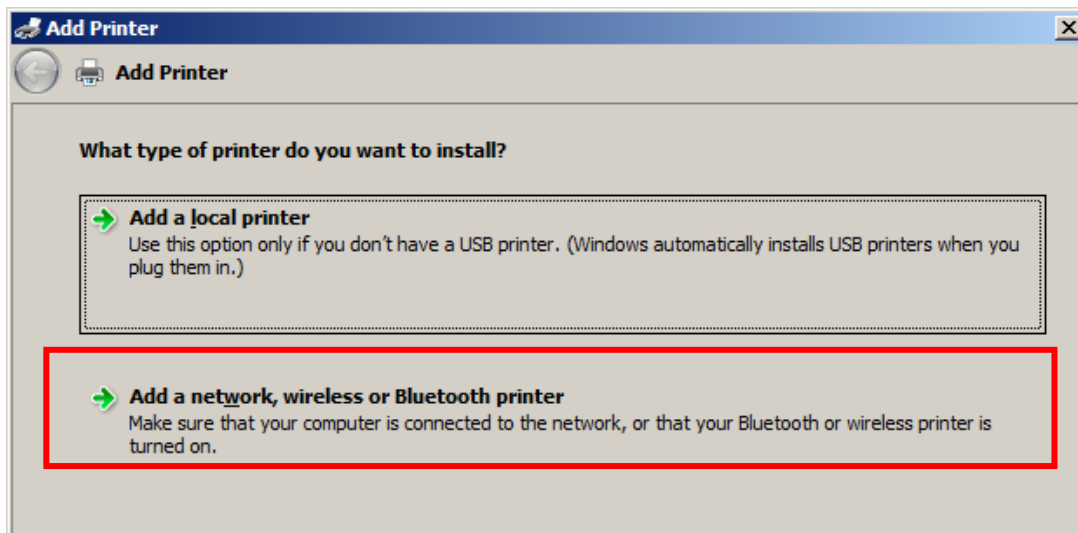

Figure 10.26 – Select “Add a network, wireless or Bluetooth printer”.
- 5) When the add a printer dialogue box pop up select “**Add a network, wireless or Bluetooth printer**”. (figure 10.26).